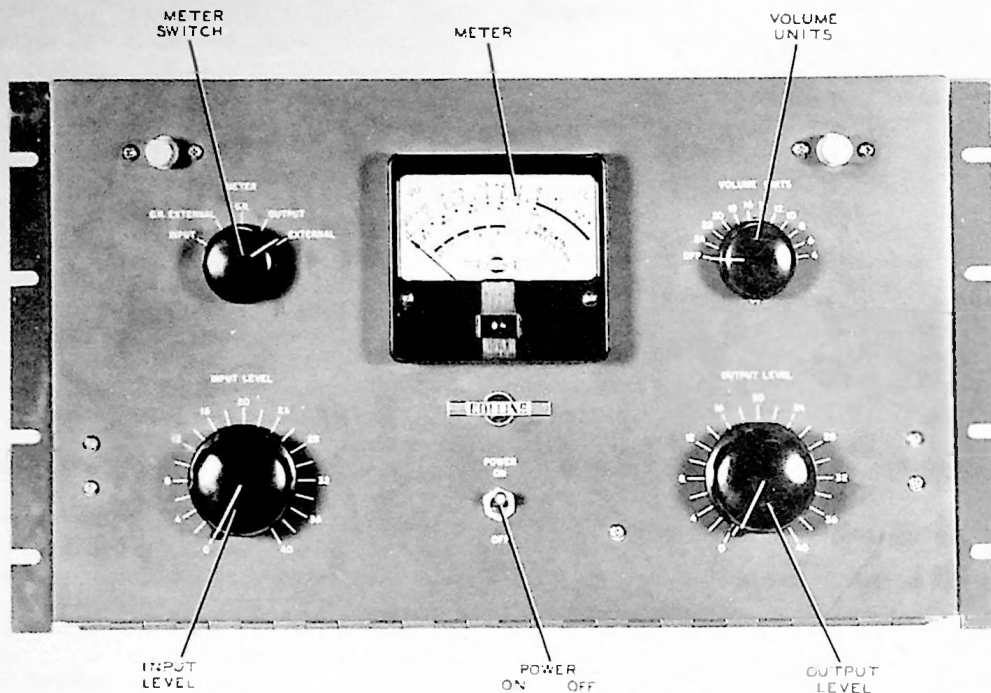

Figure 3-1. Operation Controls
3.1.1 PANEL CONTROLS. (See figure 3-1.)